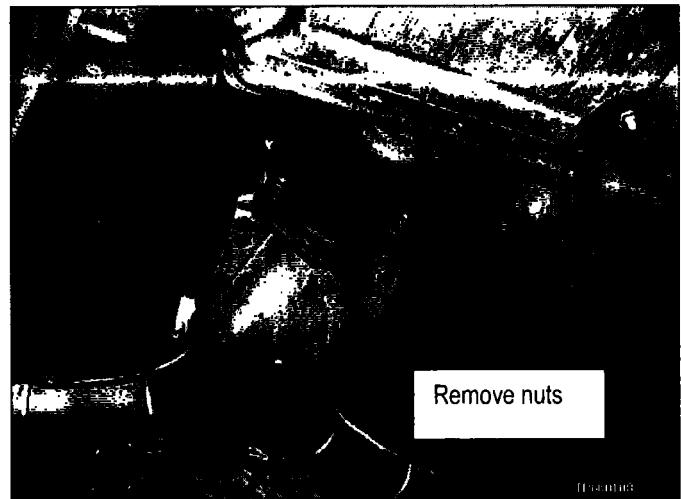

Figure 17
21. Remove the exhaust system center tube front nuts (see Figure 17).